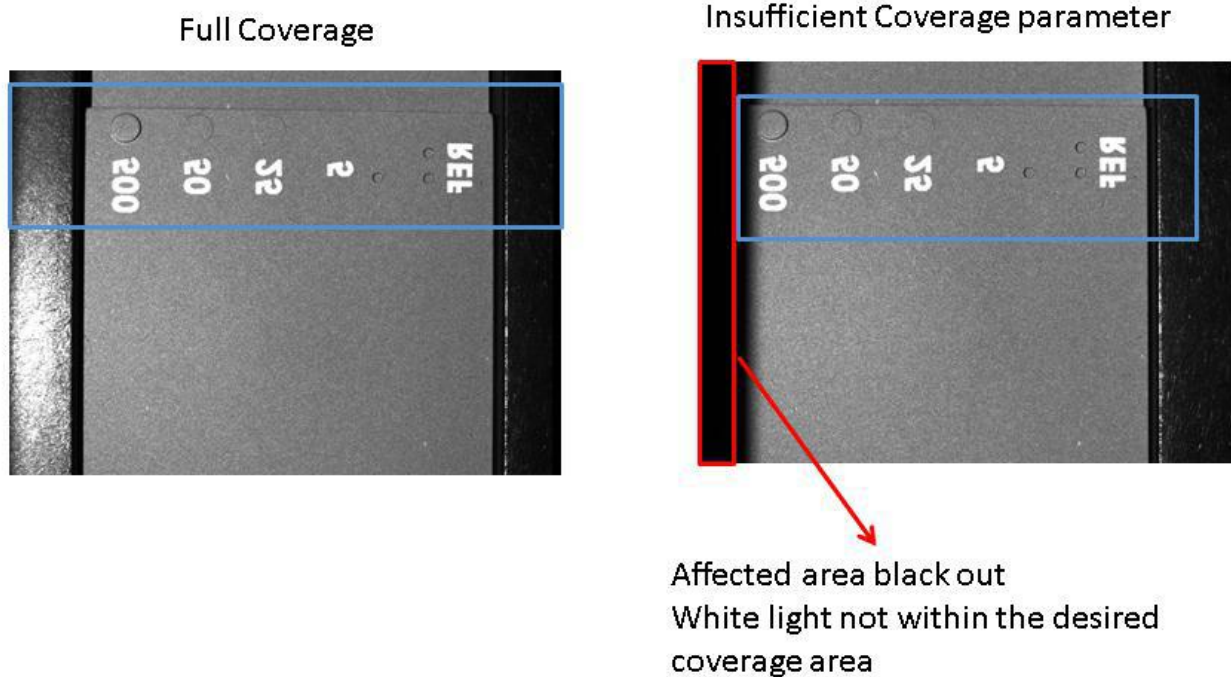

Figure 40 White Light Coverage area
39. Open StCamsWare and verify the white light projection image is within the desired coverage area as below Figure 40.